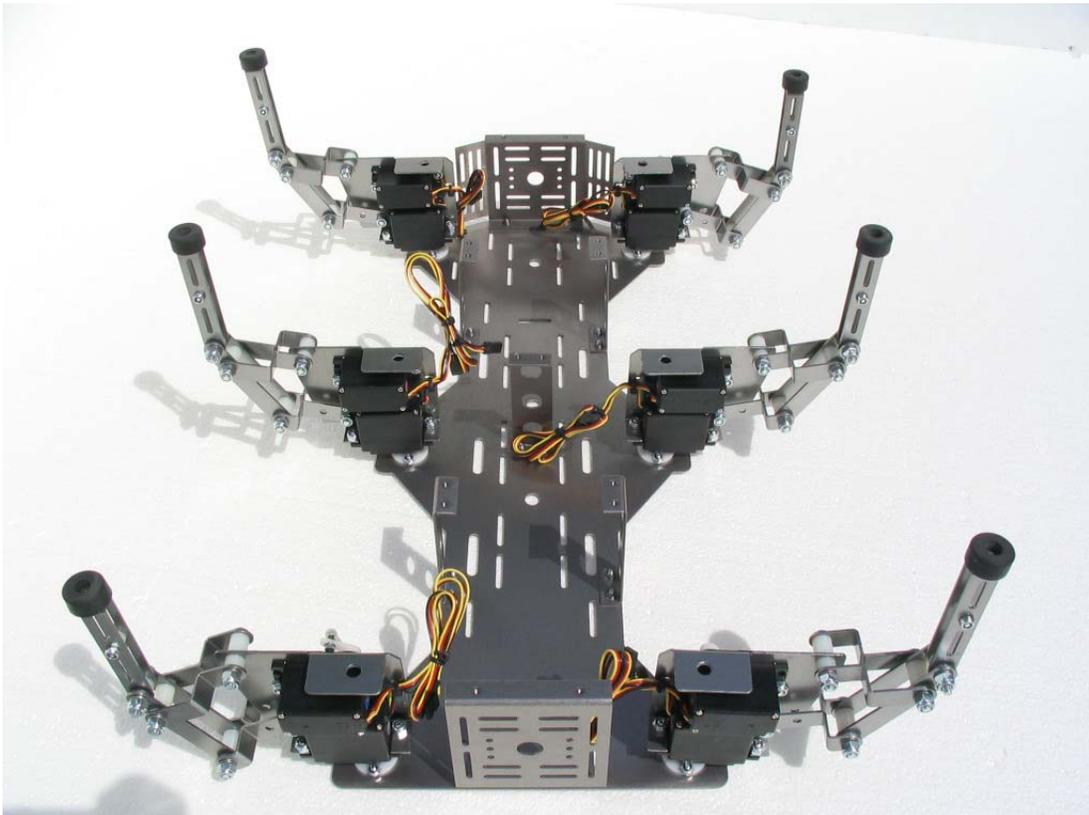

Figure 40
1. Dead-bug assembly is the way to go in the next step. The white grease will hold the washers on the lower deck in place while installing it to the upper deck of the robot. Leaving the robot on its back as shown in figure 40, lower the bottom deck onto the bottom of the HexCrawler being sure to align the pem studs with the leg pivot holes of the servo holders.